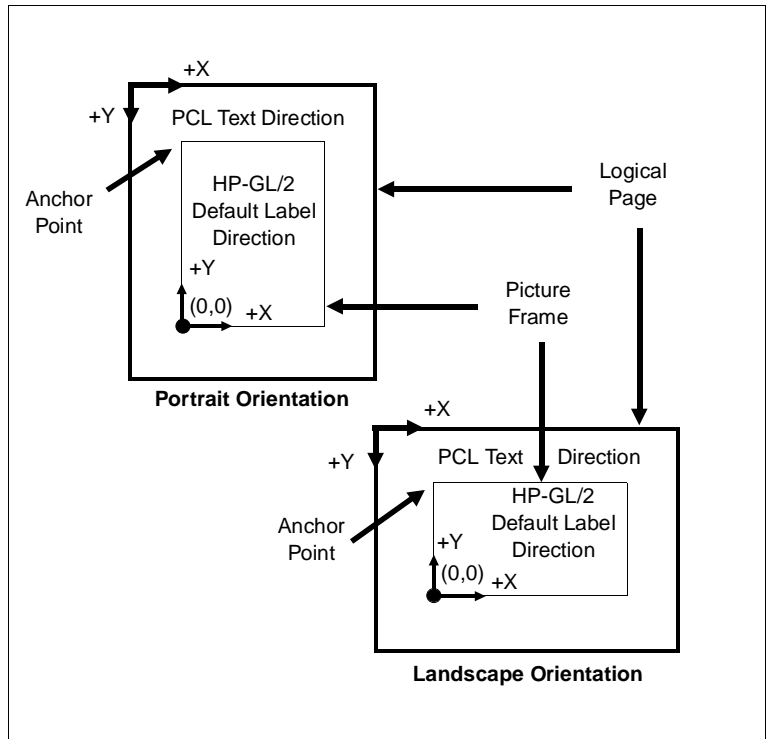

Figure 10-2. HP-GL/2 & PCL Orientation Interactions
The orientation of the HP-GL/2 coordinate system within the picture frame is determined by the orientation of the PCL logical page and the HP-GL/2 rotate command (RO). When a “RO 0;” is in effect, the origin of the HP-GL/2 coordinate system defaults to the lower-left corner of the PCL picture frame. The relationship between the PCL picture frame, picture frame anchor point, and HP-GL/2 coordinate system is shown in Figure 10-2.